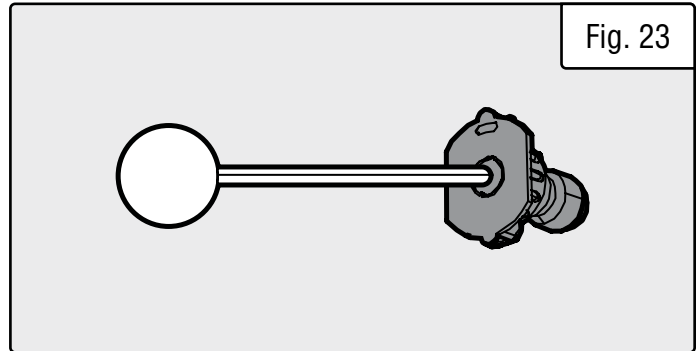

Fig. 23
3. Use the nozzle cleaner (Fig. 23) to dislodge any foreign materials which are clogging or restricting the spray tip. Flush debris out of the nozzle by back flushing with a garden hose for 30-60 seconds.